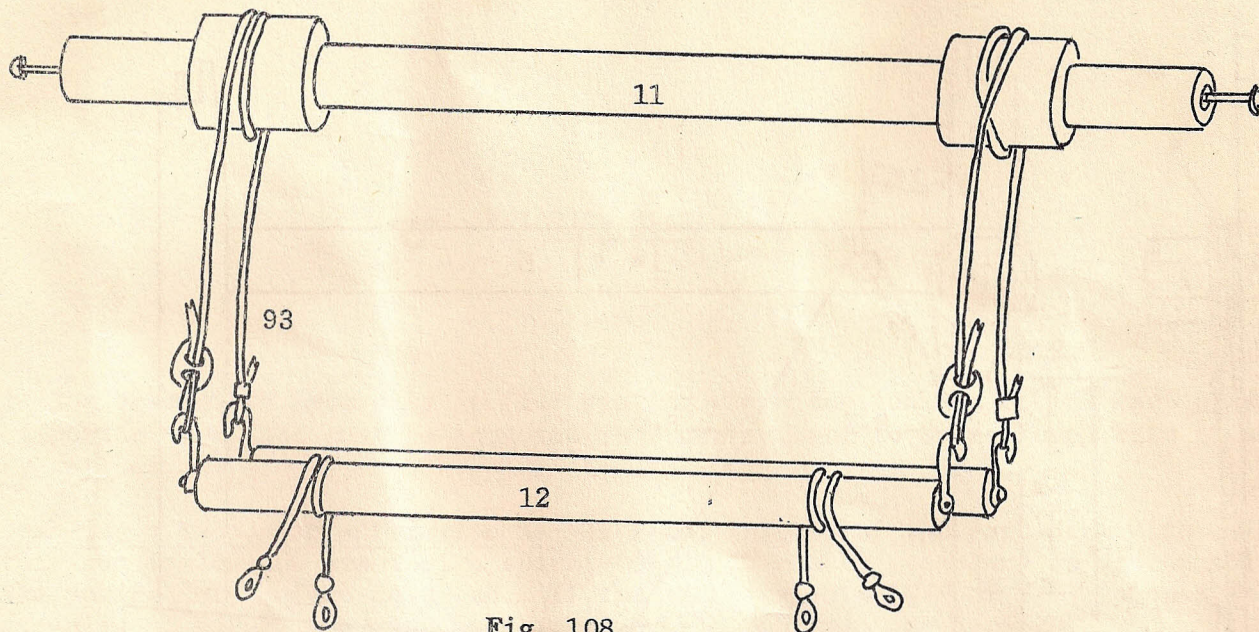

Fig. 108
12. The two small rollers are hung on the large roller, so that the cords pass one time and a half around the roller. The cords should be wound in opposite directions. In the same way the frames are hung on the small rollers (fig. 108).